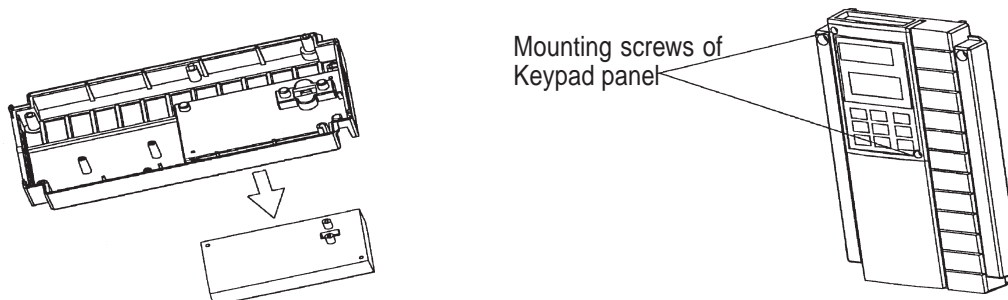

Fig.1-3-3 Removing the Keypad Panel (for drives 30HP or less)
After removing the cover as explained in (1), loosen the keypad panel mounting screws and remove as shown in Figure 1.3.3 for drives 40HP or less.